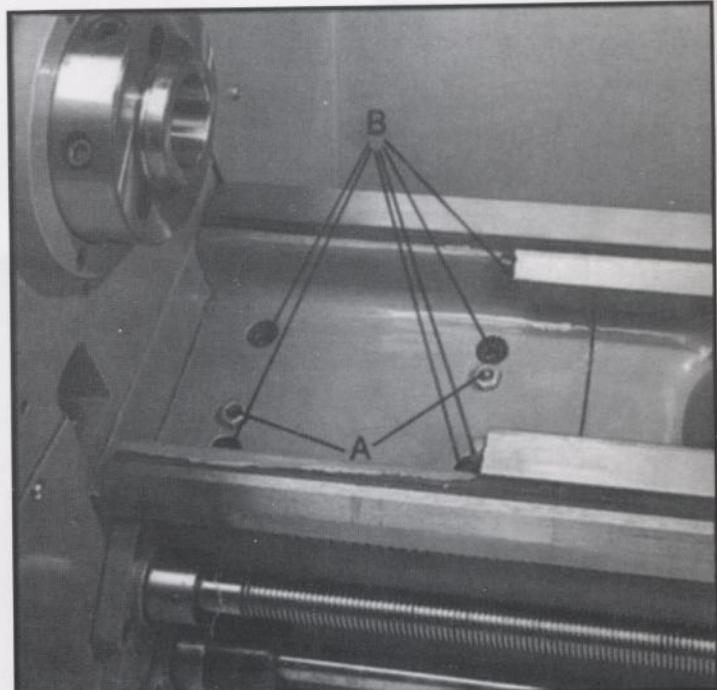

Fig.25
1. To remove gap section, locate two nuts (A, Fig.25) in the center of the gap section.
3. Remove six hex socket cap screws (B, Fig.25) with a hex key wrench.